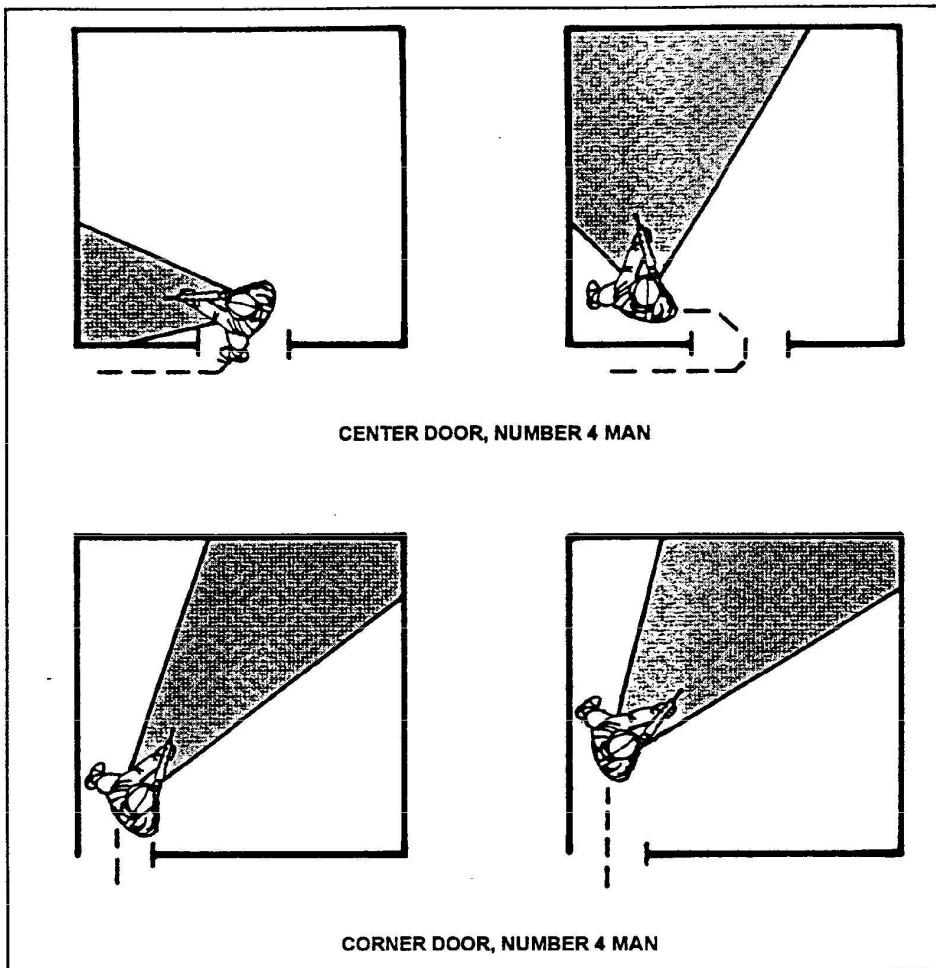

Figure K-8. Path of #4 man, center door and corner door.
(4) The squad leader can either use the number 4 man (normally the SAW gunner) as rear security at the breach site, or he can have him enter with the remainder of the team. If he enters, the number 4 man moves in the direction of the number 2 man and buttonhooks in the same way between the number 2 man and the door (Figure K-8).